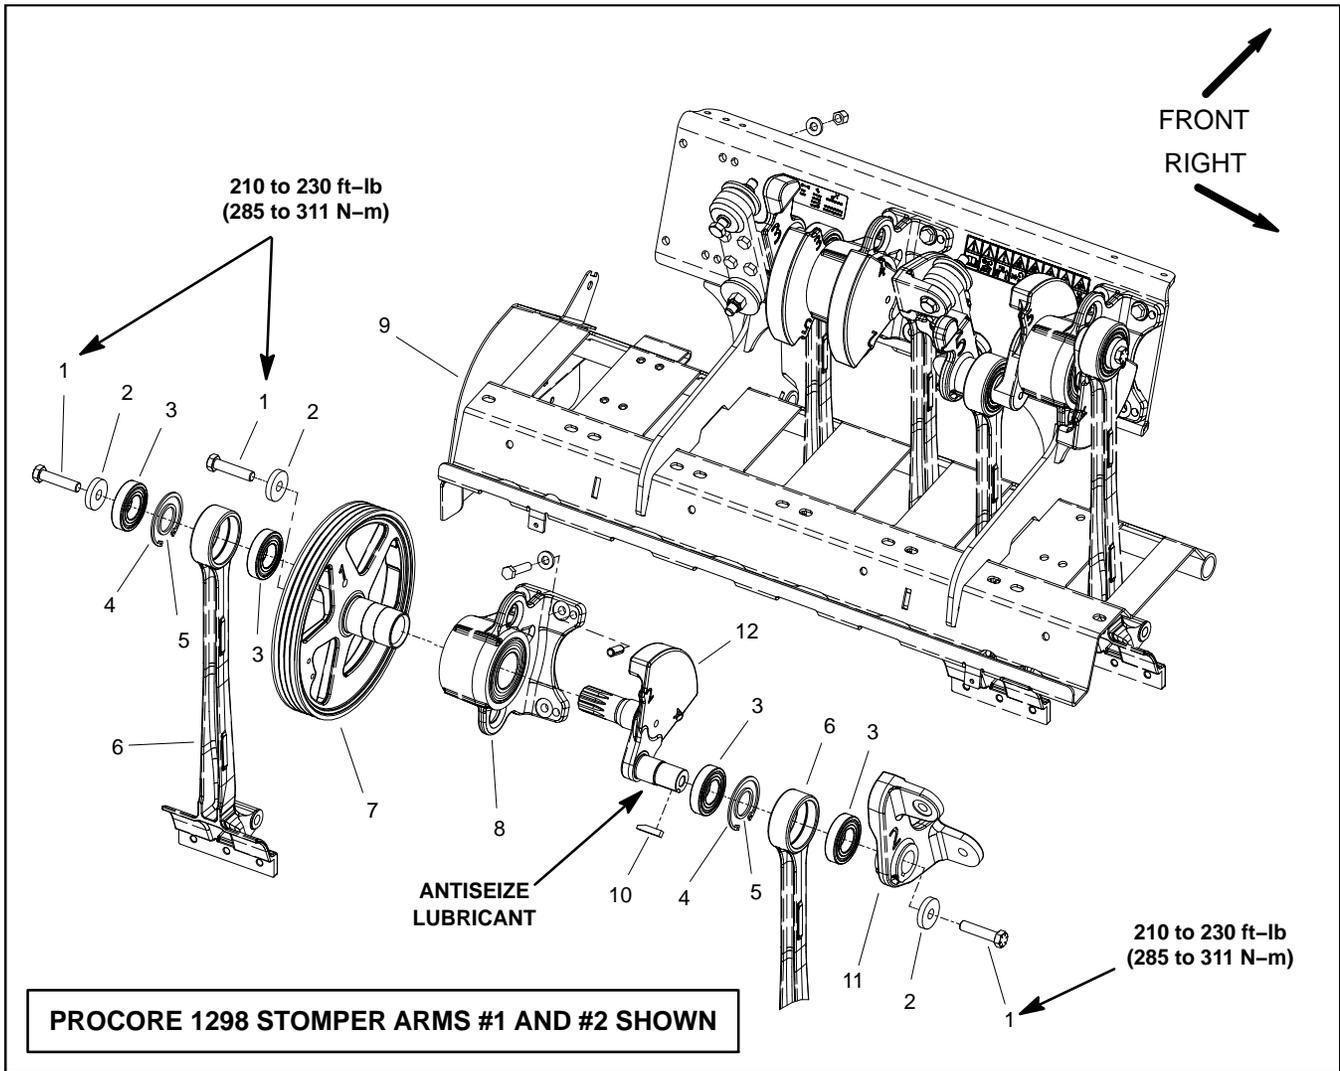

Figure 7
Removal (Fig. 7)
Installation (Fig. 7 and 11)
B. Torque grade 8, 5/8" cap screws (item 1, Fig. 7) from **210 to 230 ft-lb (285 to 311 N-m)**.